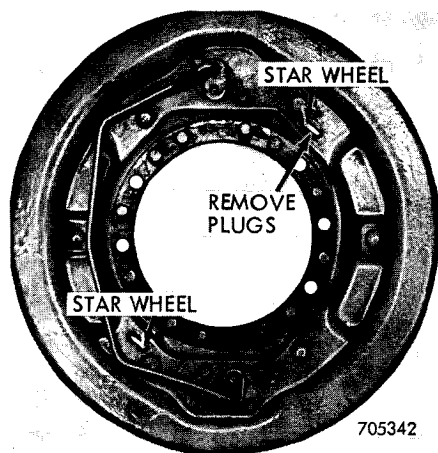

Figure 35
2. Refer to Figure 35. Remove plugs from adjusting slots.